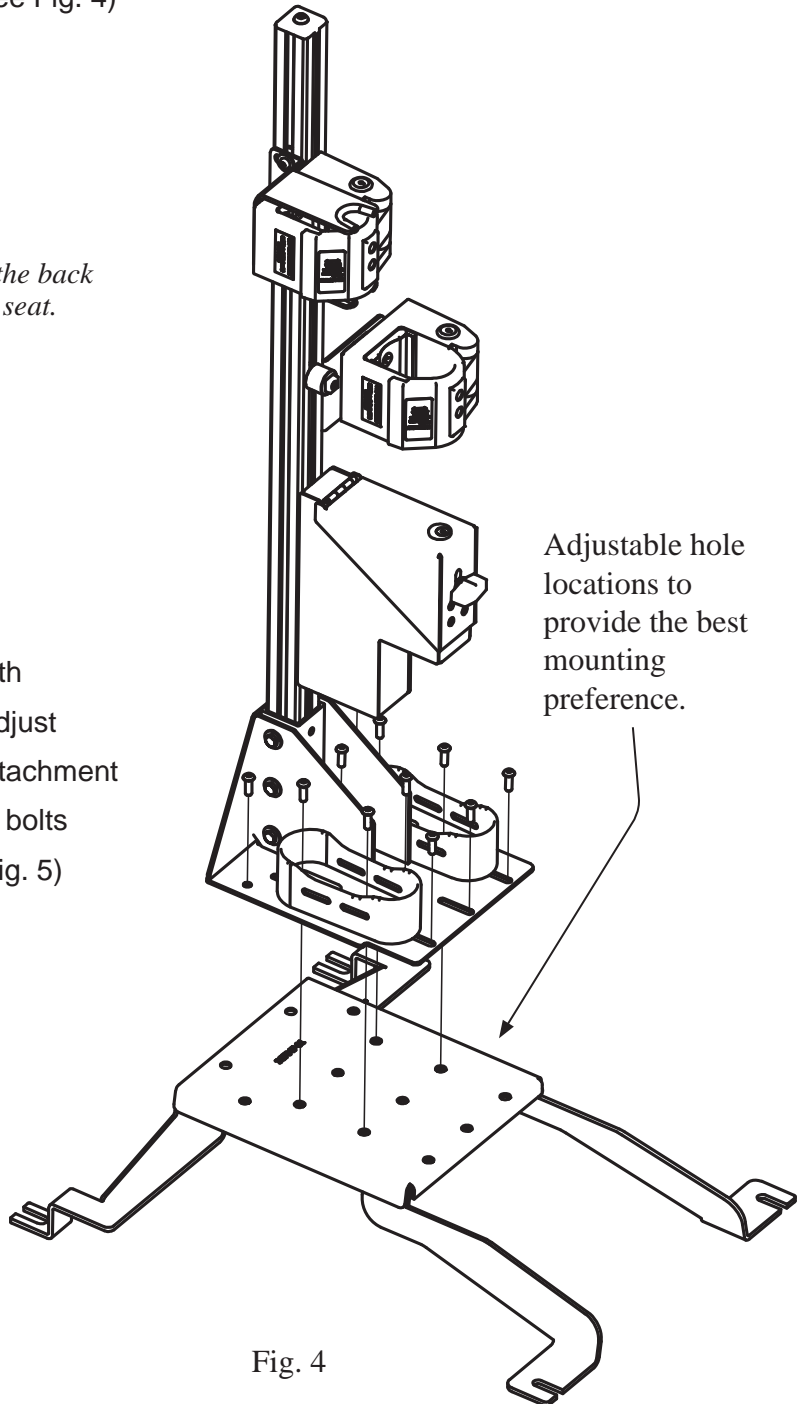

Fig. 4
- A. For self-supporting installations, remove the four bolts that secure the butt plates to the base of the gun rack. Then rest the gun rack to the self supporting stand, loosely attach the gun rack and adjust it and the butt plates as necessary from front to back. (See Fig. 4)